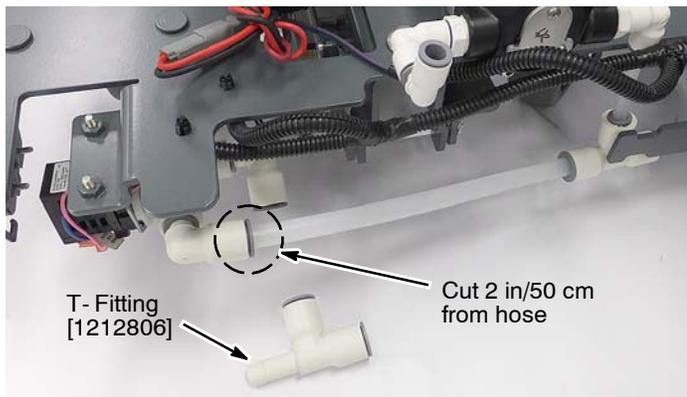

Fig. 8
6. Install new T-fitting as shown (Figure 8).